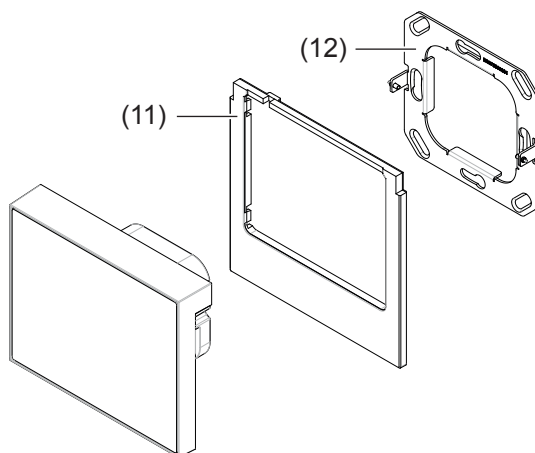

Figure 10: Installation
- Plug the enclosed pre-assembled cable into the jack **Digital/Analog IN** (4).
- Attach the design frame (11) at the back and press over the fixtures (15) until it snaps into place.
- Position the device over the supporting ring in the correct position so that the mounting devices on the device (13) and the pins with the snap lock on the supporting ring (12) are lying on top of each other (Figure 10).
- Press the device slowly onto the supporting ring until it snaps into place in the snap lock and also attach the magnetic holding points (14) to the supporting ring.